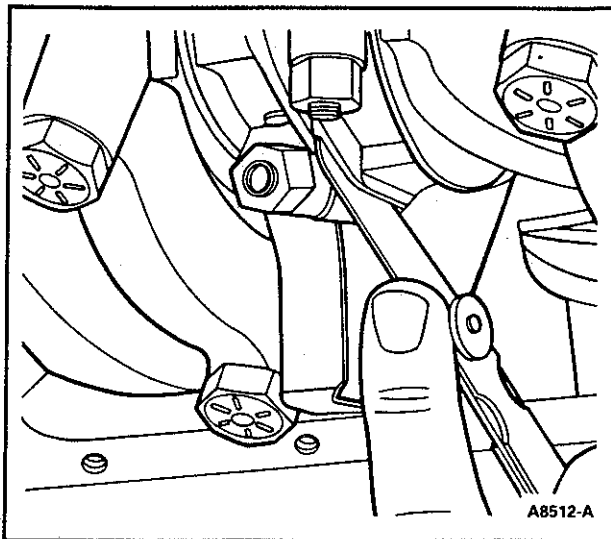

Figure 69 Checking Connecting Rod Side Clearance
9. After the piston and connecting rod assemblies have been installed, check the side clearance between the connecting rods on each shaft journal (Figure 69).
20. After the piston and connecting rod assemblies have been installed, check the side clearance between the connecting rods on each connecting rod crankshaft journal (Figure 69).